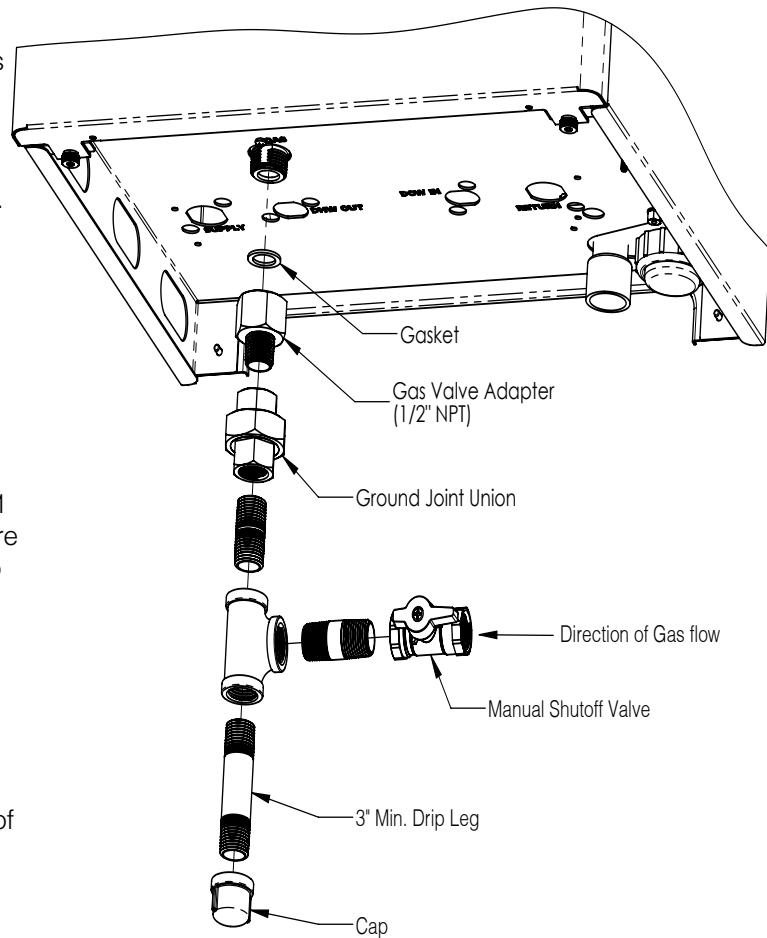

Figure 11-1: Gas Piping
2. Use methods and materials in accordance with local plumbing codes. In absence of such requirements, follow NFPA 54/ANSI Z223.1 *National Fuel Gas Code* and/or CAN/CSA B149.1 *Natural Gas and Propane Installation code*. Figure 11-1 shows typical gas piping and connection to boiler.